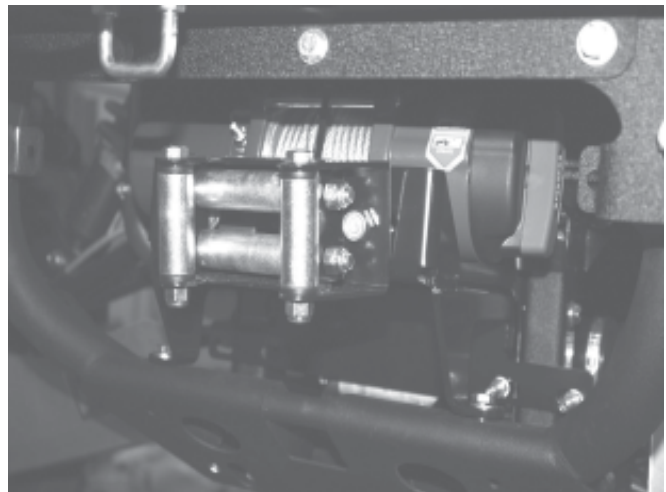

Figure 8
9. Place the winch into position on the mounting plate and attach with the hardware that came with the winch, as shown in figure 8. Use 4 M8 x 20mm hex capscrews and 4 lock washers. After securing the winch run the cable through the fairlead window and attach the hook to the end of the cable.